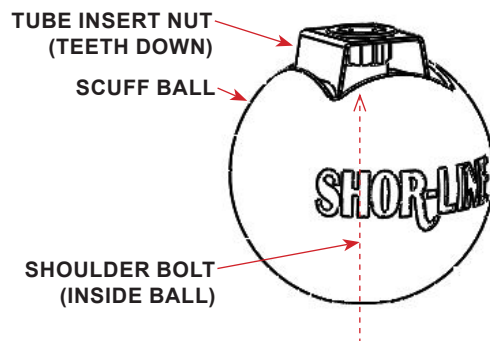

FIGURE 2.6 - Tube Insert Nut
STEP 3: Thread the shoulder bolt through the bottom hole of the scuff ball and into the insert nut (teeth towards bolt) until the insert nut is just below the top of the scuff ball. See FIGURE 2.6